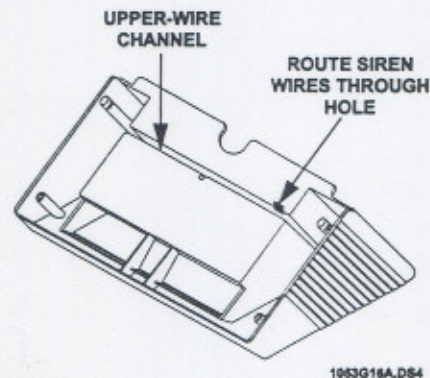

Figure 1. Upper-Wire Channel and Wire Hole Locations
- 1) Locate the three colored siren wires (Blue/Orange, Violet, and Green/Orange) in the upper wire channel of the base (see Figure 1).
- 2) Pull the wires out of the wire channel and route them through the upper-right hole in the base (see Figure 1).